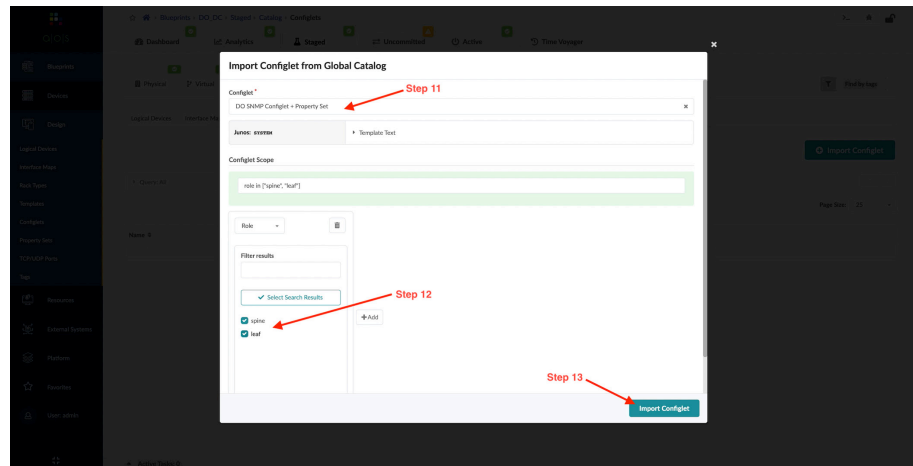

Figure 7.24 *Importing a Configlet*
Step 11: From the dropdown select the Configlet to be imported. See Figure 7.24.